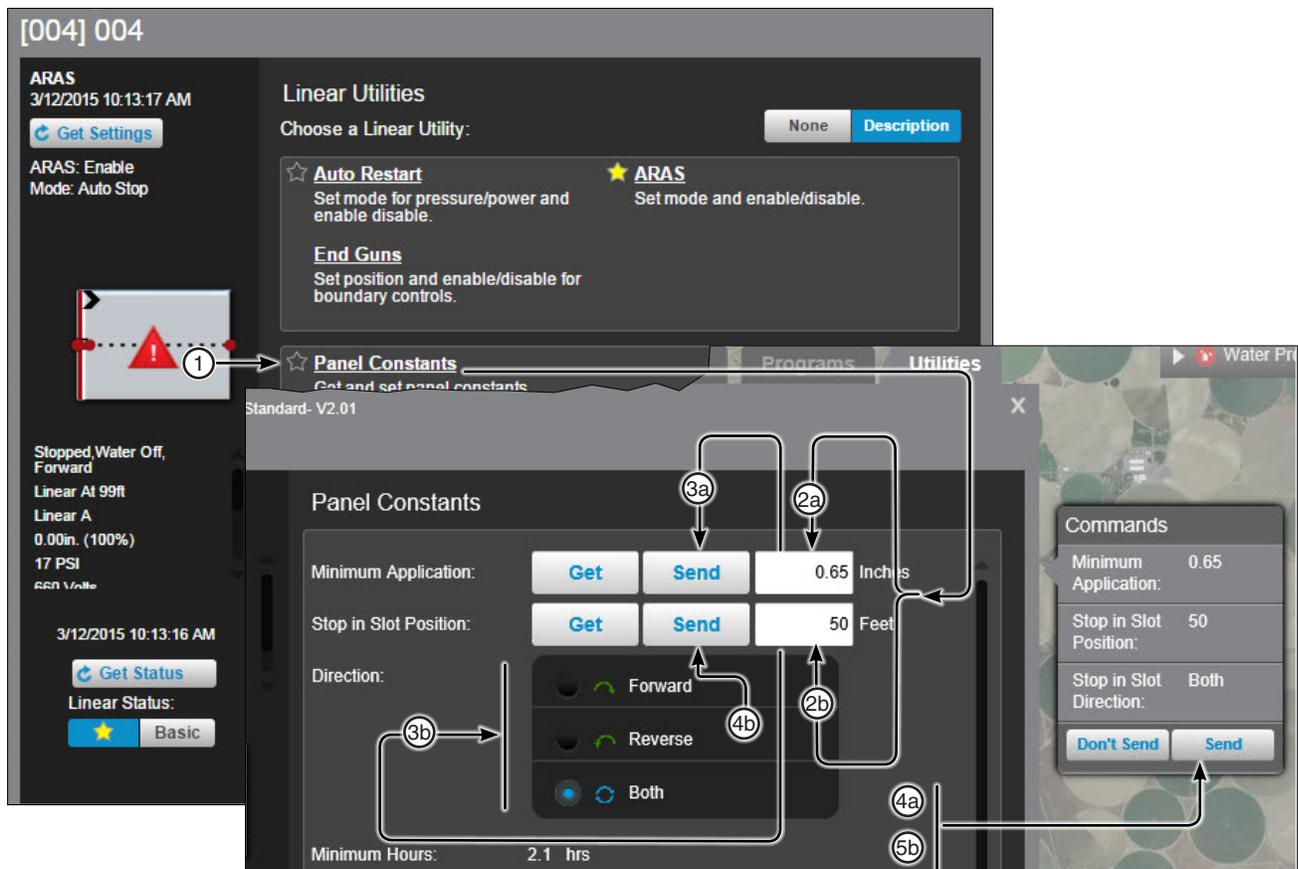

Figure 277-1 **Minimum Application**
**Send Constants:** To Send constants to the control panel, refer to Figure 277-1 and do one or more of the following.